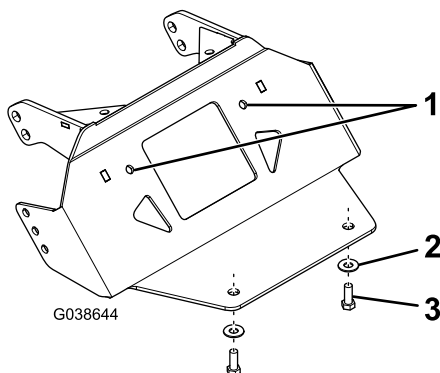

Figure 1
4. Secure the plow skid plate to the vehicle frame using 2 bolts (3/8 inch) and 2 washers (3/8 inch) as shown in Figure 1.